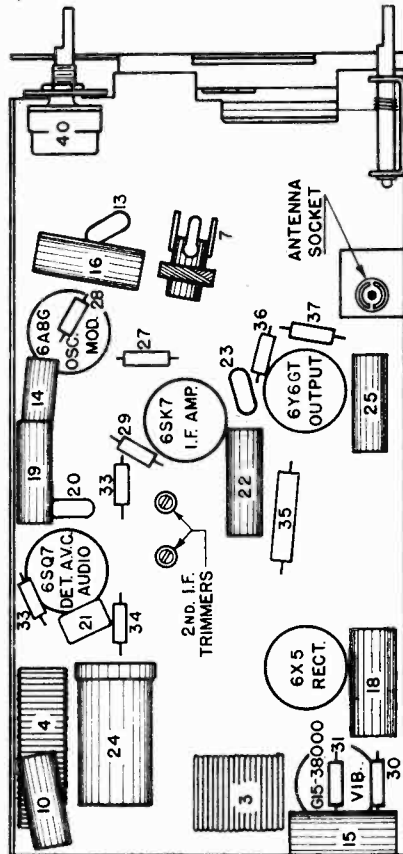

Fig. 3—Bottom View Model A-559
- (d) Adjust both 2nd I-F trimmer condensers for maximum output. Fig. 3.